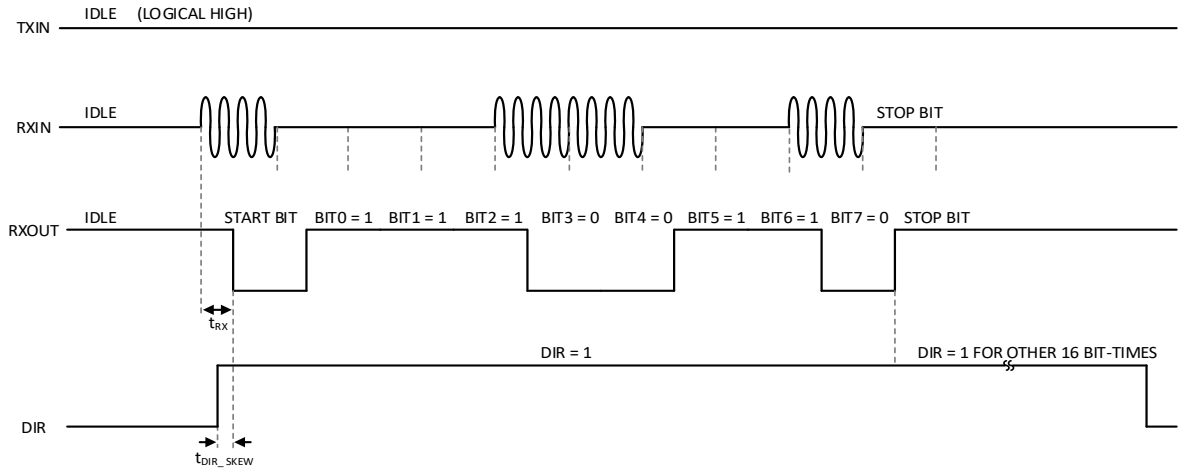
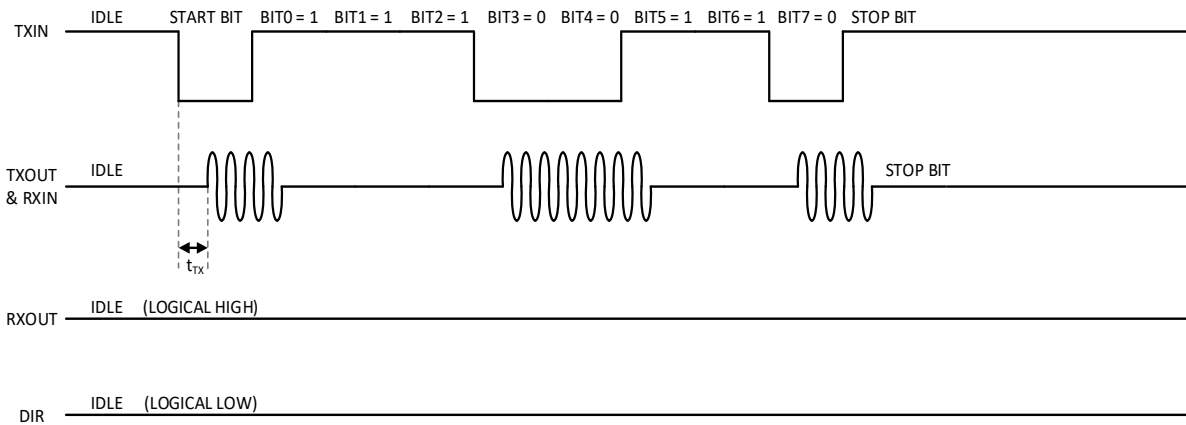

Figure 9-1. Communication Flow is from RXIN to RXOUT
Figure 9-2. Communication Flow is from TXIN to TXOUT
Figure 9-1 and Figure 9-2 show the timing diagrams of the DIR functionality. The direction control output DIR automatically toggles based on activity present on the coaxial input interface, and has an adjustable time constant in order to accommodate the signaling rates of 9.6kbps, 38.4kbps and 115.2kbps. When not in standby mode, the device operates as below status,
- 2) When the data flows from RXIN to RXOUT, the device transitions to RECEIVE mode, RXOUT responds to all valid modulated signals on RXIN, whether from the a remote transmitter, or long noise burst. The transmitter blocks all signals on Tx channel and TXOUT is quiet. DIR remains high for 16 bit-times after the last logic-level high bit within the 8-bit protocol data. Then DIR is asserted low and the devices transitions to IDLE mode. This is compliant with the AISG specification saying that the RS-485 transmitter stops driving the bus within 20 bit-times after the last stop bit is sent, see Figure 9-1.
3) When the data flows from TXIN to TXOUT, the device transitions to TRANSMIT mode. RXOUT stays high regardless of the input signal on RXIN; TXOUT responds to TXIN, generating 2.176 MHz signals on TXOUT when TXIN is Low, and TXOUT is quiet when TXIN is High. The device stays in TRANSMIT mode until 16 bit times after TXIN goes High, see Figure 9-2.